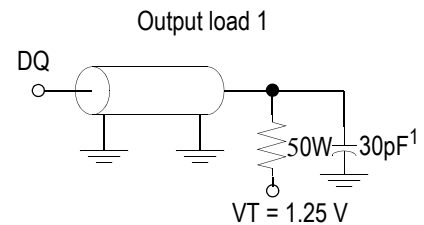

FIG. 1
Output load	Fig. 1 & 2
- Test conditions as specified with output loading as shown in Fig. 1 unless otherwise noted.